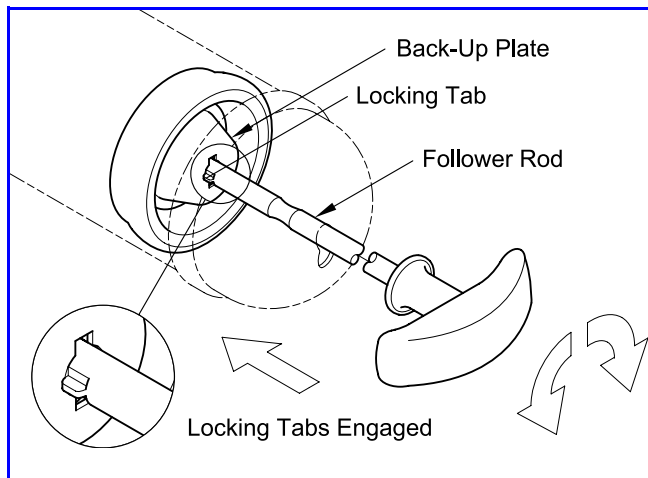

Figure 4 Follower Rod Engaged with Back-Up Plate
3. Rotate the Rod and allow the Locking Tabs to contact the Back-Up Plate. See **Figure 4**.